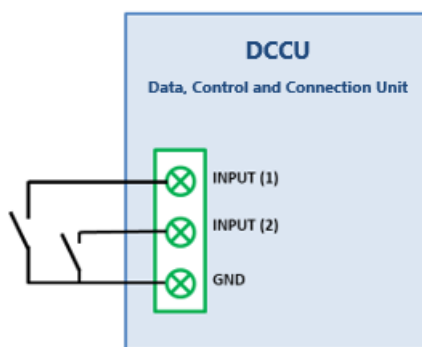

Figure 36 - Connecting Inputs in DCCU
- ☐ in the DCCU, and are labelled IN1 and IN2; see Figure 36 - Connecting Inputs in DCCU.